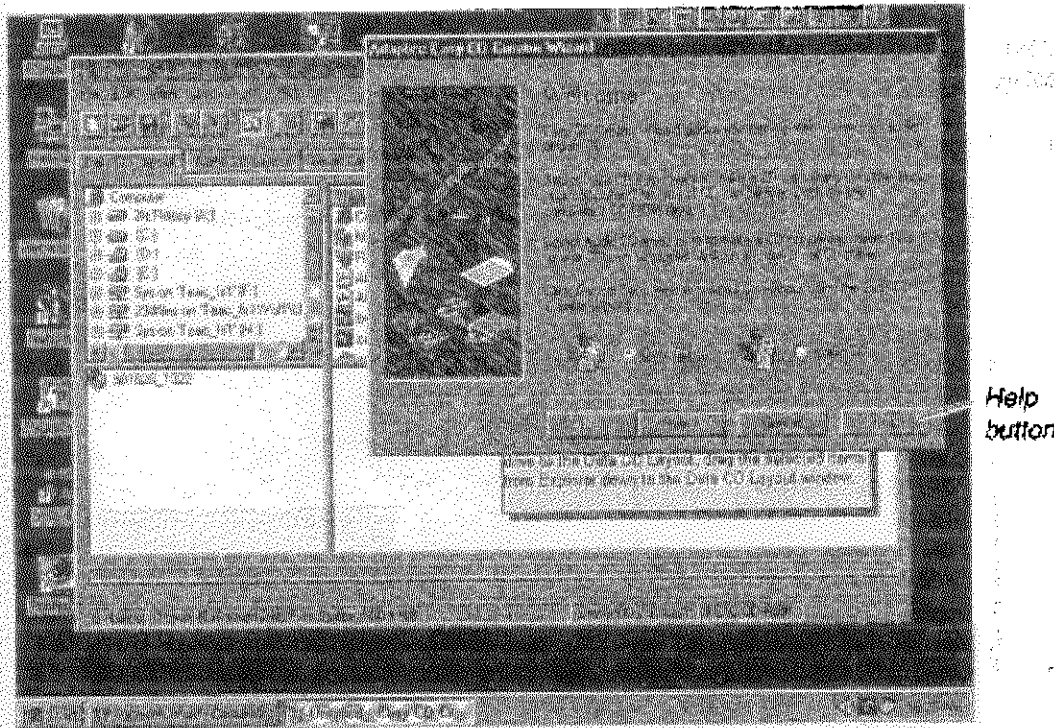

Figure 31. Easy CD Creator Wizard
The system displays an introductory screen followed by the first panel of the Easy CD Creator Wizard (Figure 31), which will guide you through the process of creating audio or data discs.
1. **Click the left-mouse button on the Help button (refer to Figure 31).**